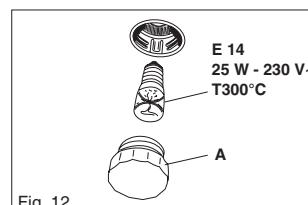

Fig. 12
The oven lamp used is of a special type withstanding high temperatures. To replace it, act as follows: disassemble the protecting glass (A) and replace the burnt lamp with one of the same type (fig. 12). Reassemble the protecting glass.